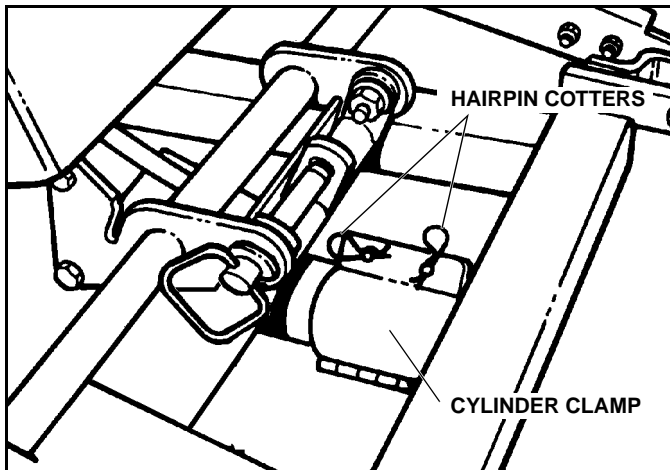

Figure 1-4
5. Install the Hairpin Cotters Into the Pivot Pins. See Figure 1-4.